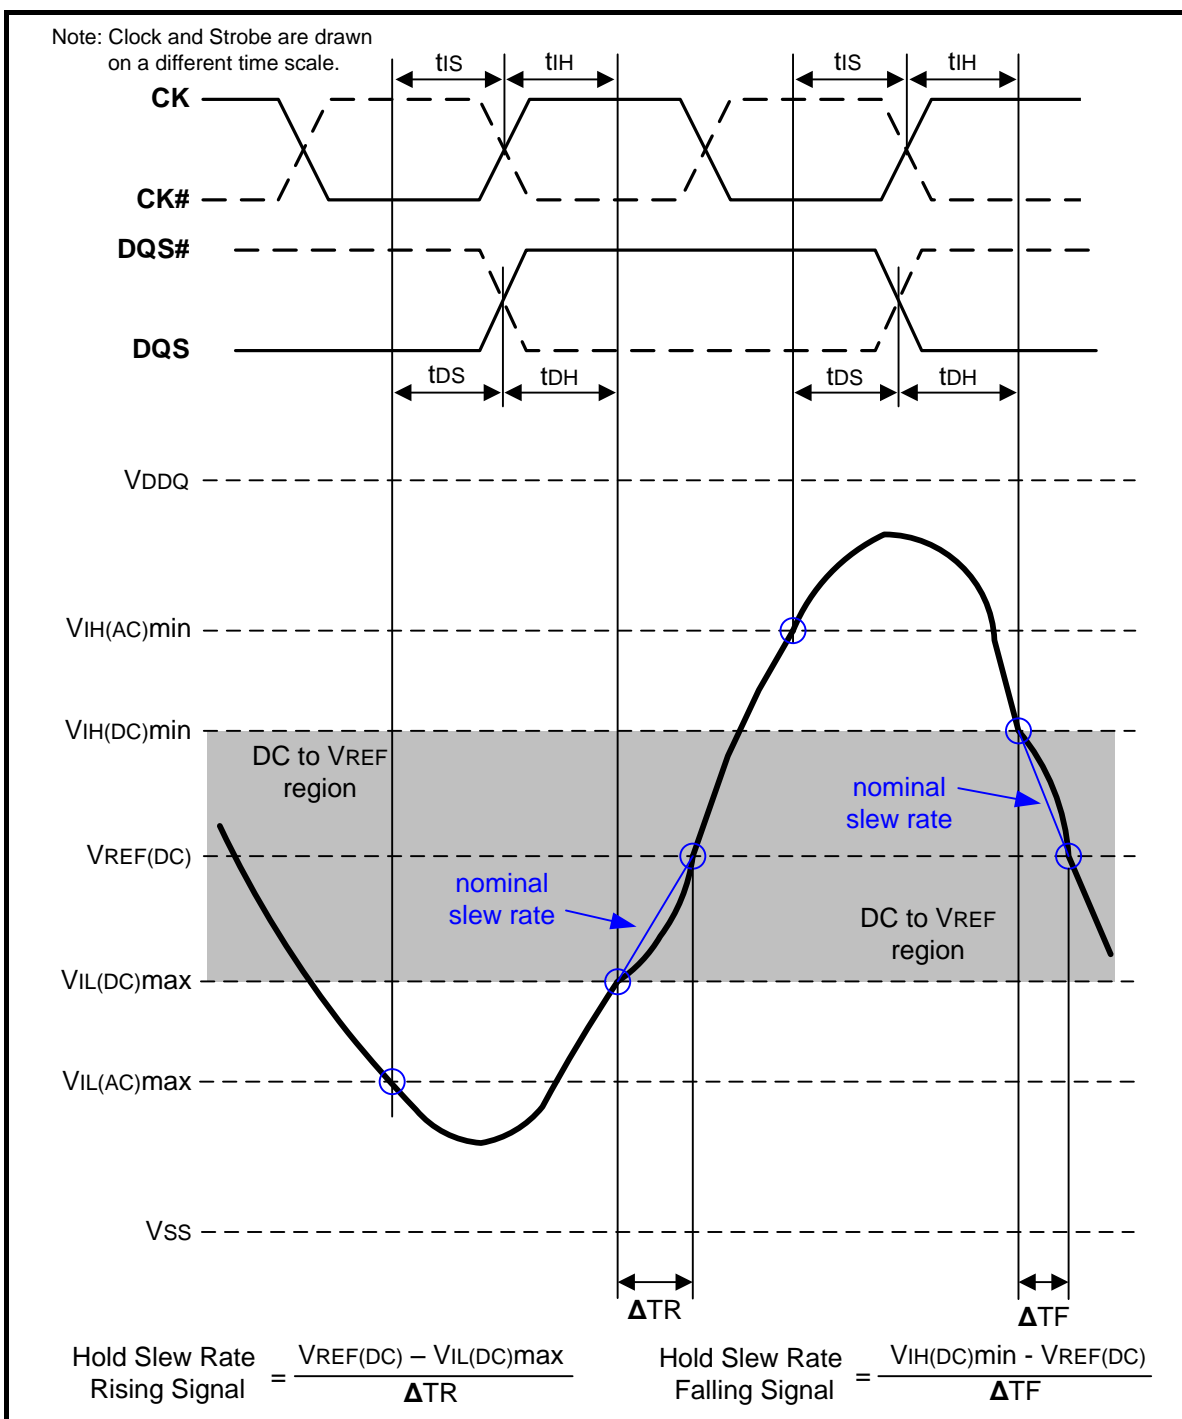
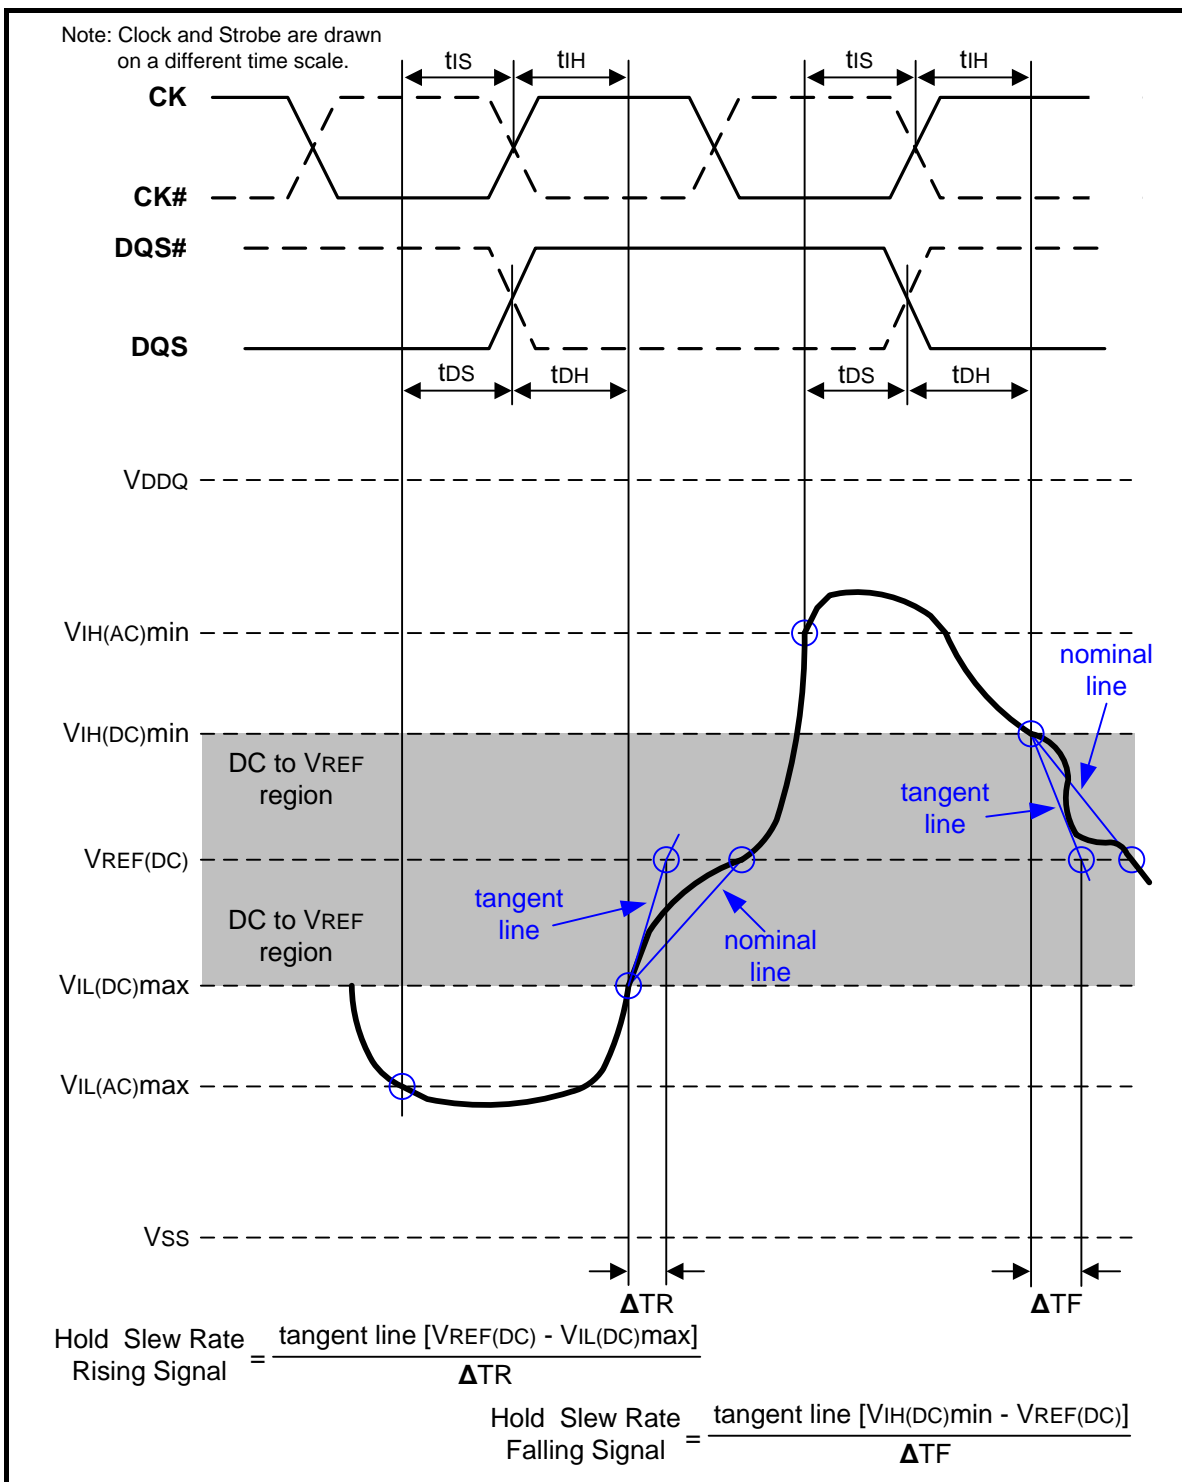

Figure 108 – Illustration of nominal slew rate for hold time t_{DH} (for DQ with respect to strobe) and t_{IH} (for ADD/CMD with respect to clock)
Figure 110 – Illustration of tangent line for for hold time t_{DH} (for DQ with respect to strobe) and t_{IH} (for ADD/CMD with respect to clock)
Hold (t_{IH}) nominal slew rate for a rising signal is defined as the slew rate between the last crossing of $V_{IL}(\text{DC})_{\text{max}}$ and the first crossing of $V_{REF}(\text{DC})$. Hold (t_{IH}) nominal slew rate for a falling signal is defined as the slew rate between the last crossing of $V_{IH}(\text{DC})_{\text{min}}$ and the first crossing of $V_{REF}(\text{DC})$. If the actual signal is always later than the nominal slew rate line between shaded 'DC to VREF(DC) region', use nominal slew rate for derating value (see Figure 108). If the actual signal is earlier than the nominal slew rate line anywhere between shaded 'DC to VREF(DC) region', the slew rate of a tangent line to the actual signal from the DC level to VREF(DC) level is used for derating value (see Figure 110).
Hold (tDH) nominal slew rate for a rising signal is defined as the slew rate between the last crossing of VIL(DC)max and the first crossing of VREF(DC). Hold (tDH) nominal slew rate for a falling signal is defined as the slew rate between the last crossing of VIH(DC)min and the first crossing of VREF(DC) (see Figure 108). If the actual signal is always later than the nominal slew rate line between shaded 'DC level to VREF(DC) region', use nominal slew rate for derating value. If the actual signal is earlier than the nominal slew rate line anywhere between shaded 'DC to VREF(DC) region', the slew rate of a tangent line to the actual signal from the DC level to VREF(DC) level is used for derating value (see Figure 110).